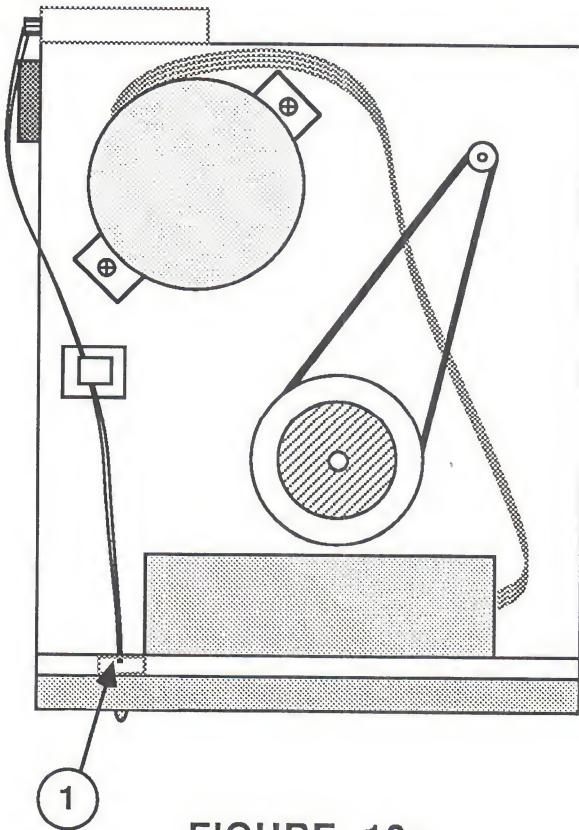
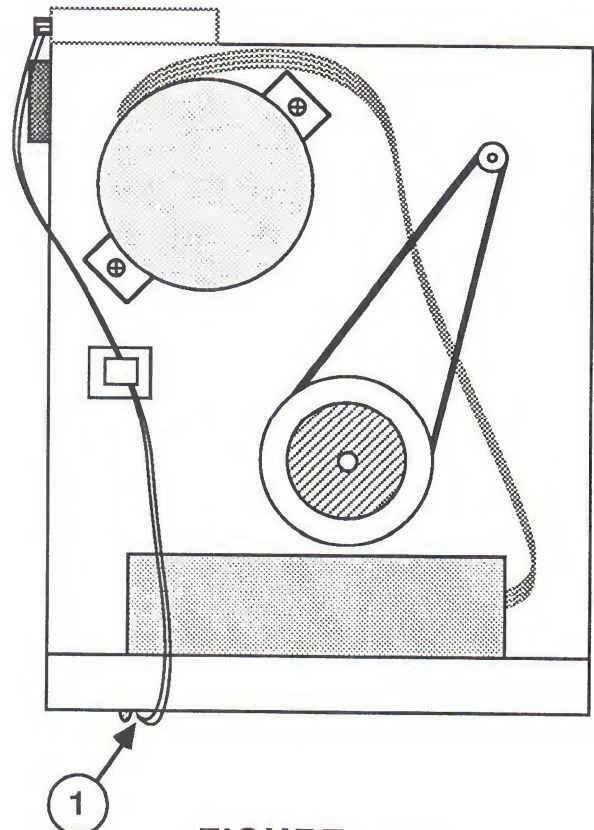

FIGURE 10a
FIGURE 10b
**NOTE:** The LED cable has two possible routings depending on the type of mechanical assembly. The type shown in Figure 10a, #1, has a hole cut into the mechanical assembly which the wires are routed through. The type shown in Figure 10b, #1, has the wires routed to the front of the bezel where they are then inserted into a rectangular hole with the LED immediately above the wires.